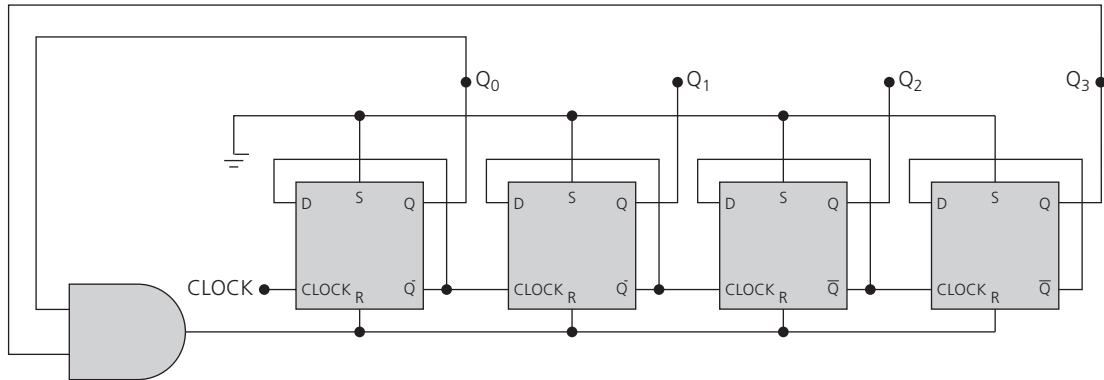

Figure 19 A BCD counter
from 0 to 9 and then resets. It therefore goes through a sequence of ten states when it is clocked and returns to 0 on the binary count of 1001 (decimal 9). Four D-type flip flops are connected, as shown in Figure 19.
- Explain, referring to Figure 19 and your table in part a, how outputs Q_0 and Q_3 can be used to reset the counter to zero with the AND gate.